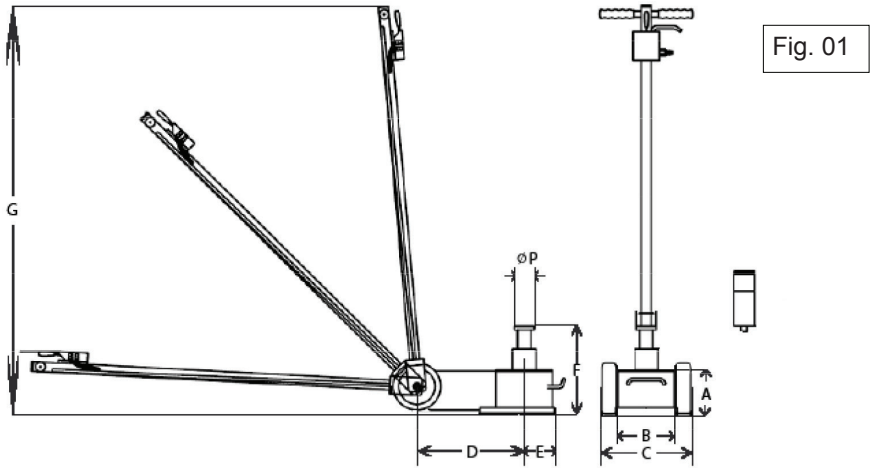

Fig. 02
- First loosen the screw attached to the side of the wheels,CP80300,of the frame, CP80500, Fig. 02.